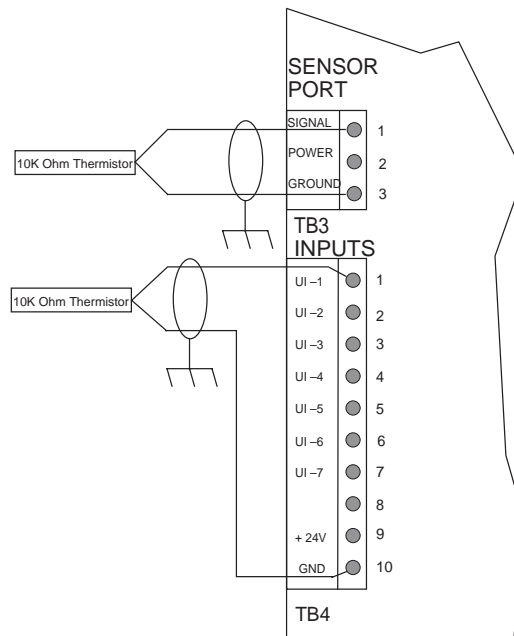

Figure 7. Space Sensor Connection — I/STAT and Universal
All MR universal inputs are configured for 10K ohm thermistors from the factory (10K, 0.1%, 1/8 watt resistor in the “Bx” resistor position). The “Ax” and “Cx” positions must be vacant (no resistors) for proper thermistor input operation. There are no resistor configurations for the dedicated I/STAT port TB3. See Figure 7 for thermistor connection diagrams.
1. Connect one lead to pin 1 (signal) of TB3 (see Figure 7).
The MRs have one I/STAT space sensor and various numbers of universal inputs. The space sensor point is connected either to an I/STAT sensor or 10K ohm thermistor (see Figure 6 on page 18 and Figure 7 on page 20).